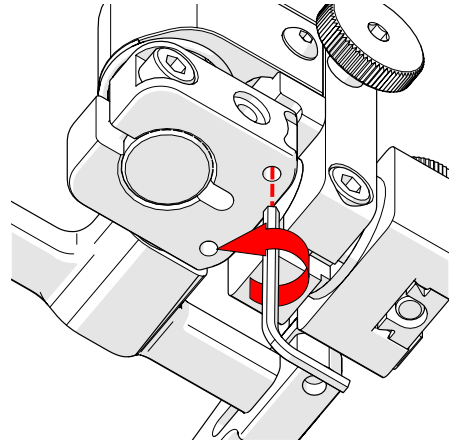

Fig. 126 - Lower 90° stop post
7. Locate the recessed M3 screw (stop post) on the bottom of the probe holder. Unscrew the stop post using a 1.5 mm hex wrench until it has cleared all obstructions. Do not remove stop post (Fig. 126).